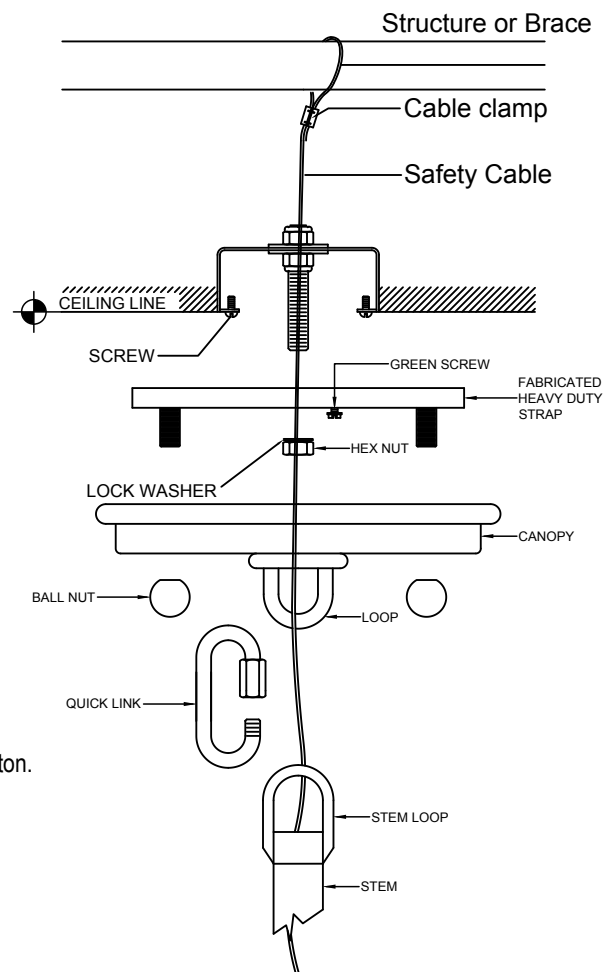

Figure-1
1. Attach the SAFETY CABLE to the building structure or brace. See Figure-1.